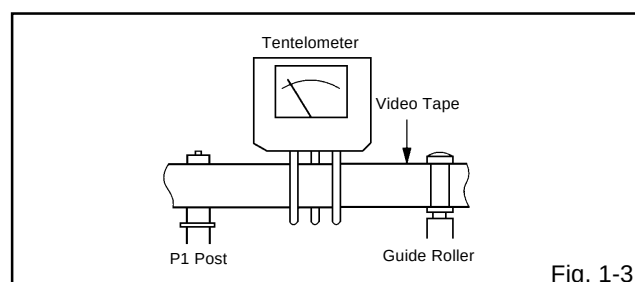

Fig. 1-3
- Install the tentelometer as shown in **Fig. 1-3**. Confirm that the meter indicates $20 \pm 2\text{gf}$ in the beginning of playback.
- After confirmation and adjustment of Tension Post position (Refer to item 1-2), load the cassette type torque tape (**JG100A**) and set to the PLAY mode.